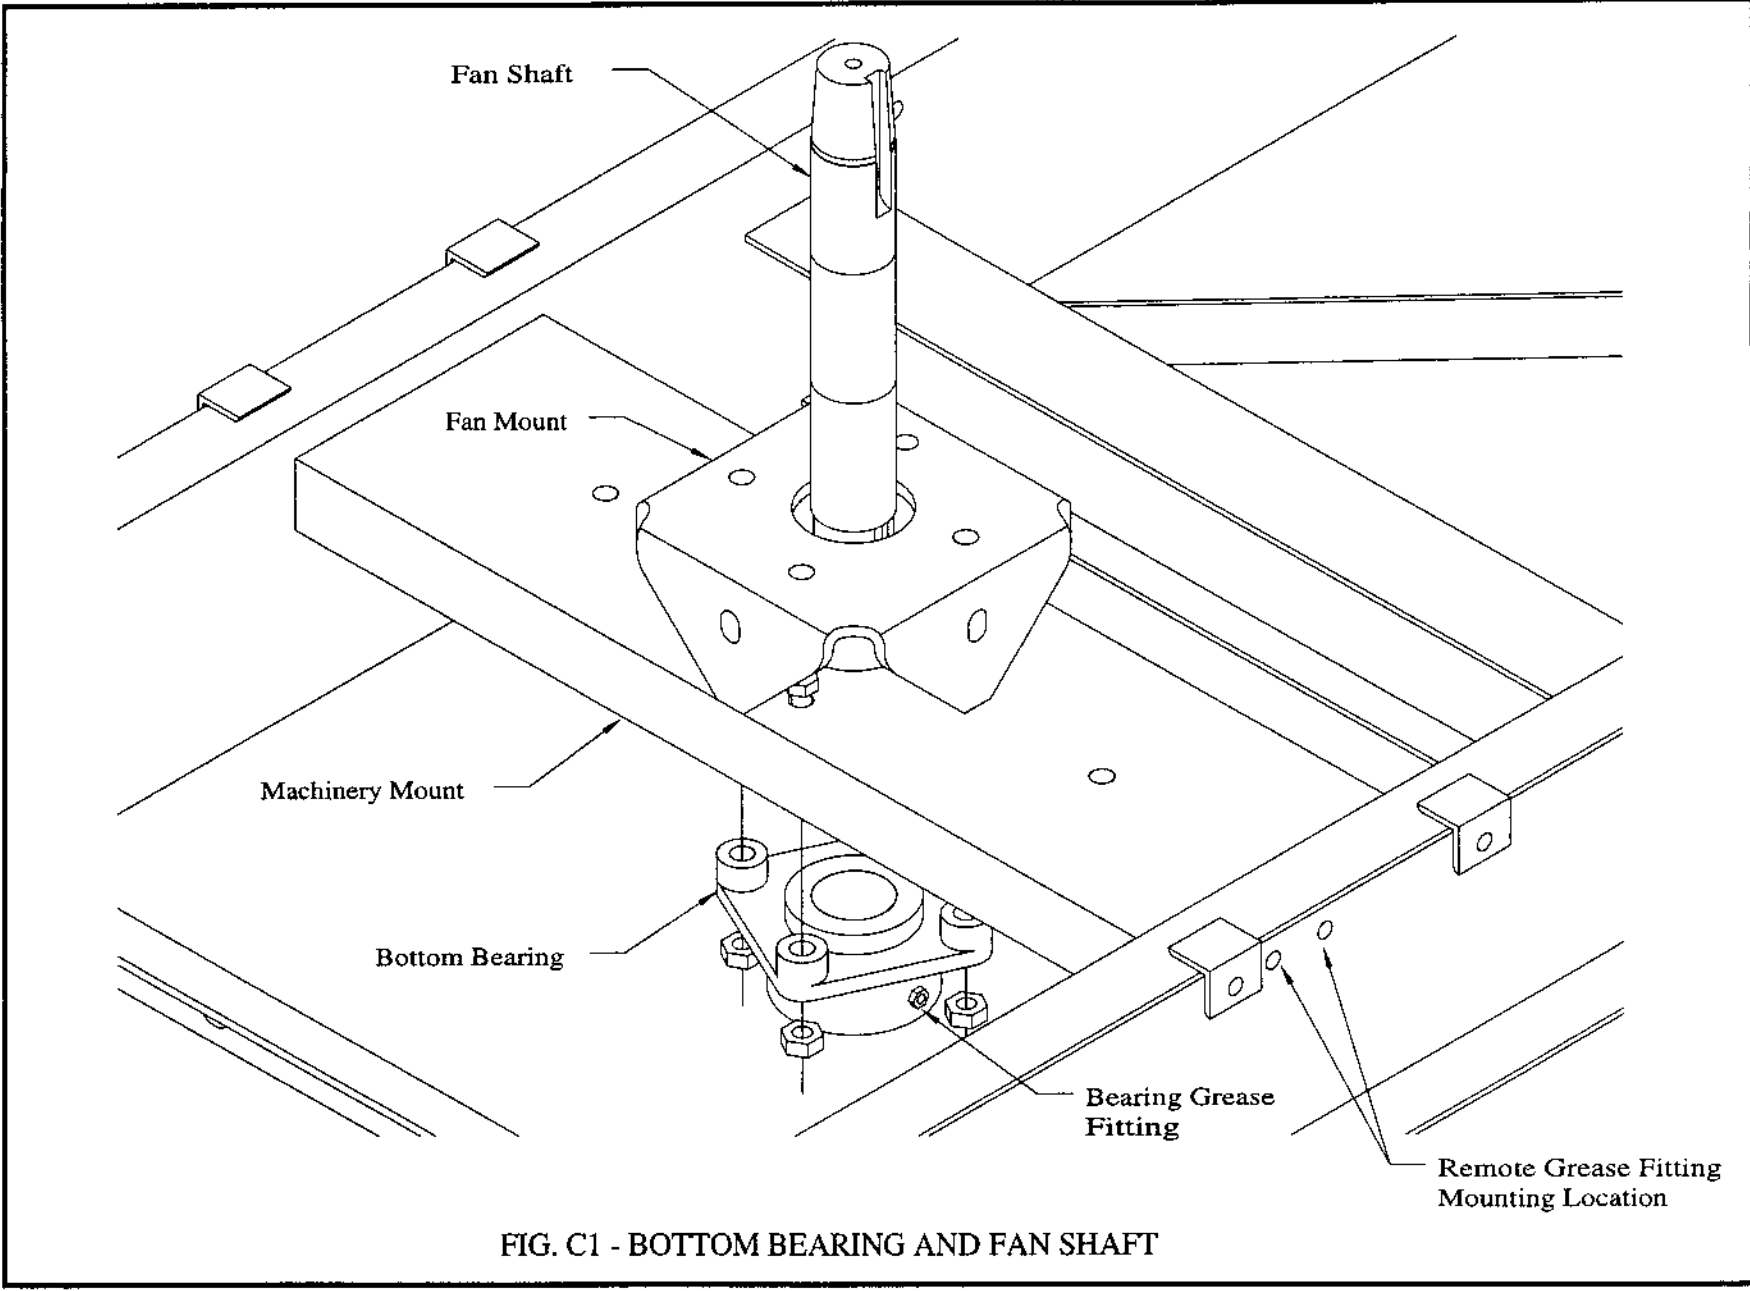

FIG. C1 - BOTTOM BEARING AND FAN SHAFT
1. Attach bottom bearing, with grease connection facing the machinery mount side channel to which remote grease fittings will be installed. Install fan shaft, tapered end up, through the top of fan mount to the bottom bearing. Fan shaft shoulder should rest on bearing race. See Fig. C1.